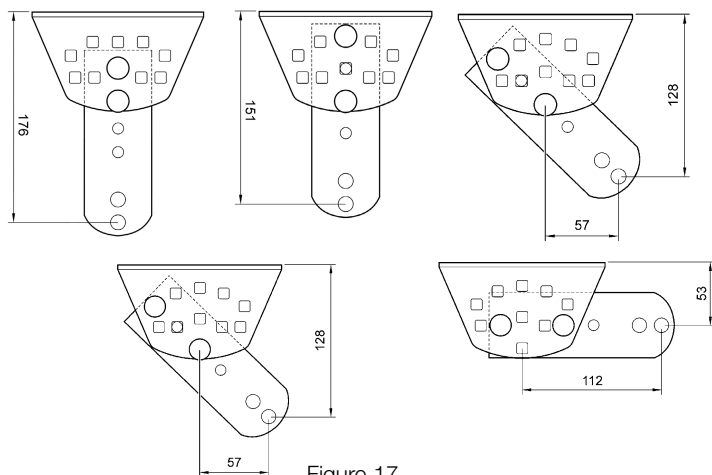

Figure 17
- "C" depends on how the rear bracket is mounted (see Figure 17) and may vary from 53 mm to 176 mm. It is normally about 150mm.
5 To obtain different "C" values (see Figure 12) assemble the brackets and plate as shown in Figure 17.
20 If necessary, test the other assembly positions allowed by the front and rear plates. See Figure 17.